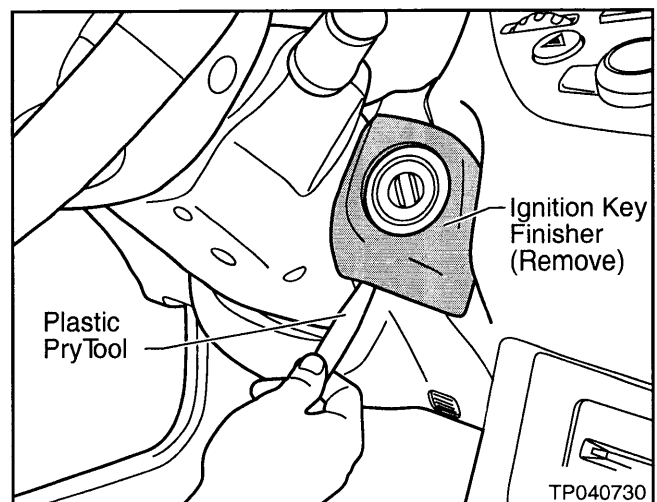

Figure 9
- b. Remove the Ignition Key Finisher using a Plastic Pry Tool (see Figure 9).